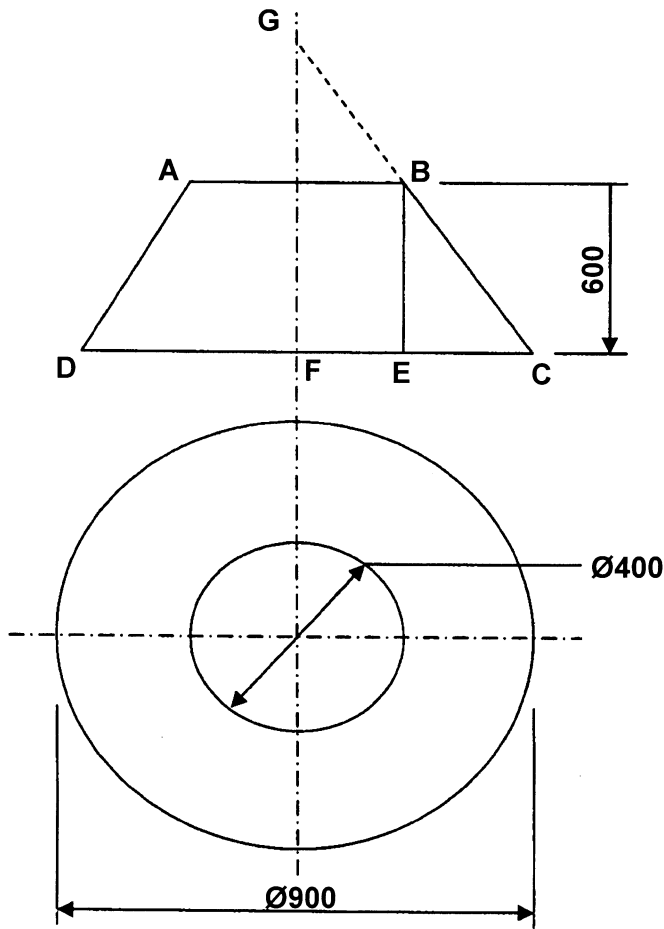

Figure 6
- 6.2 **Figure 6** shows a cone frustum with a height of 600 mm. The large diameter is 900 mm while the small opening has a diameter of 400 mm.